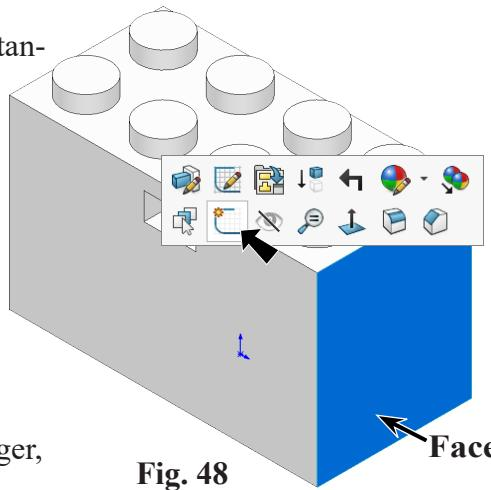

Fig. 48
Step 2. Click the right side face and click Sketch  on the context toolbar, Fig. 48.